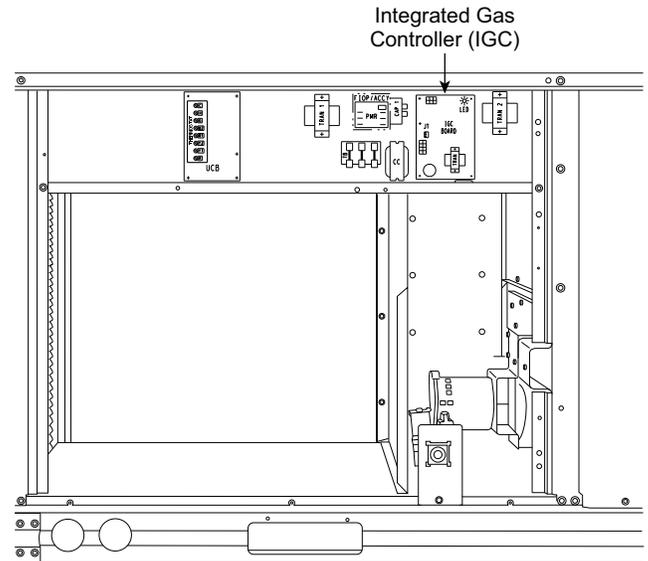
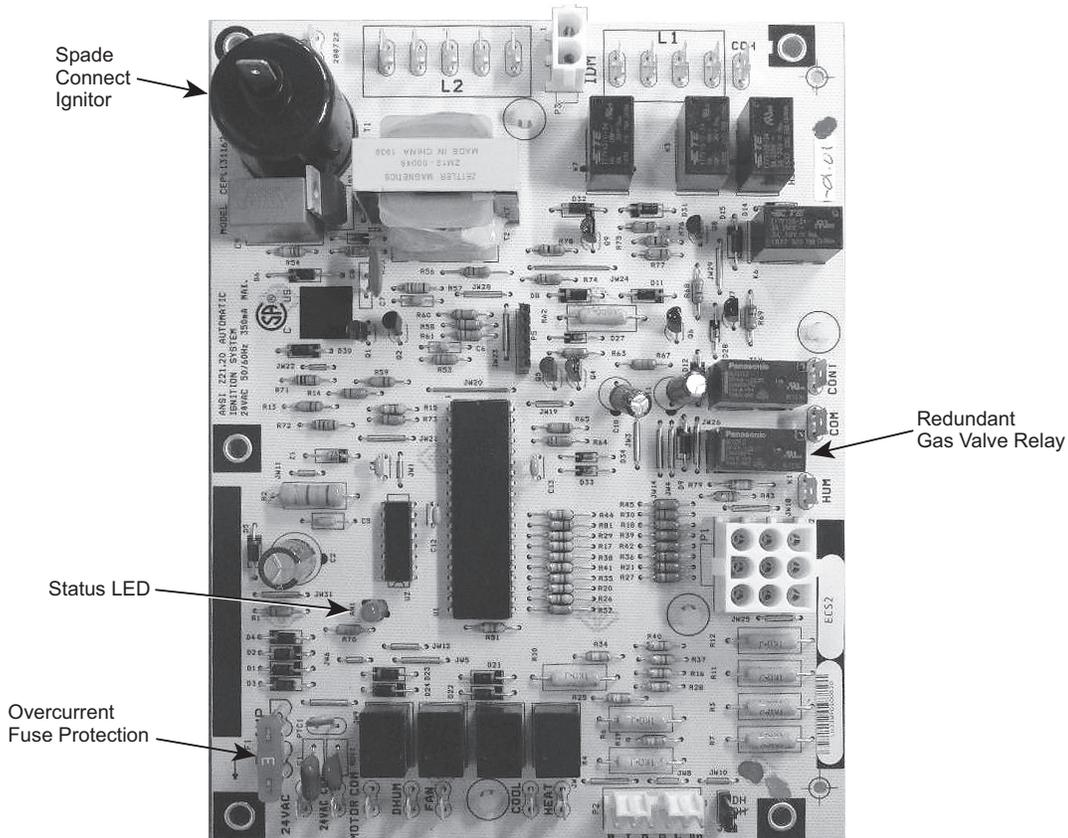

Fig. 52 — Unit Control Box/IGC Location
Fig. 56 — Integrated Gas Control (IGC) Board
8. Remove igniter wires and sensor wires at the Integrated Gas Unit Controller (IGC). (See Fig. 52.)
7. Disconnect the igniter wires and sensor wires at the integrated gas controller (IGC) (see Fig. 52).
Unit is equipped with a direct spark ignition 100% lockout system. The Integrated Gas Unit Controller (IGC) is located in the control box (see Fig. 52). The IGC contains a self-diagnostic LED (light-emitting diode). A single LED (see Fig. 56) on the IGC provides a visual display of operational or sequential problems when the power supply is uninterrupted. When a break in power occurs, the IGC will be reset (resulting in a loss of fault history) and the indoor (evaporator) fan ON/OFF times will be